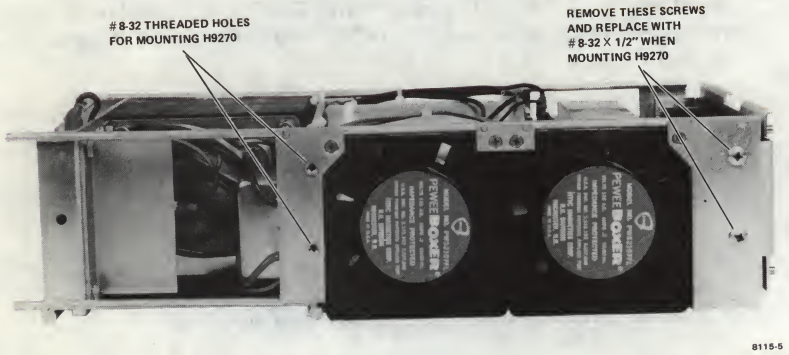
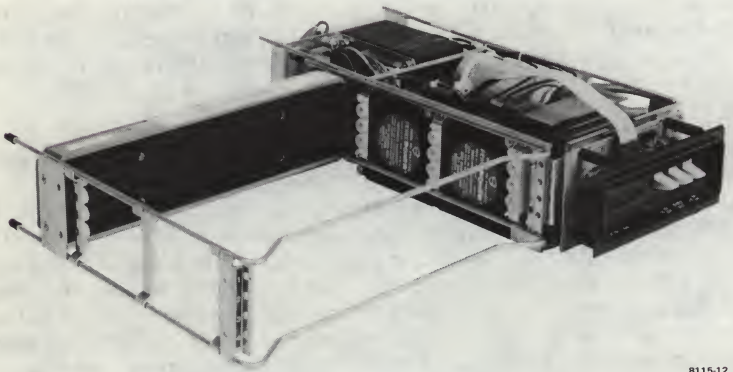

Figure 17 Left Side of H780 Showing H9270 Mounting Holes
Figure 18 H780 Mounted to H9270 Backplane
**Mounting an H780 to an H9270 Backplane** – The H780 power supply is designed to be mounted to the LSI-11 H9270 backplane. Four holes on the left side of the H780 are equipped with No. 8-32 threaded bosses (Figure 17 ). These holes mate with four holes in the right side of the H9270 backplane frame. Four No. 8-32 X 1/2 inch screws are inserted through the H9270 backplane holes and are threaded into the H780 power supply. The H9270 backplane and the H780 power supply thus become one assembly (Figure 18 ). Figure 17 shows the location of the four mounting holes in the H780. The two screws securing the front-chassis partition must be removed. These screws are to be replaced with longer screws (1/2 in) when attaching the H780 to the H9270.